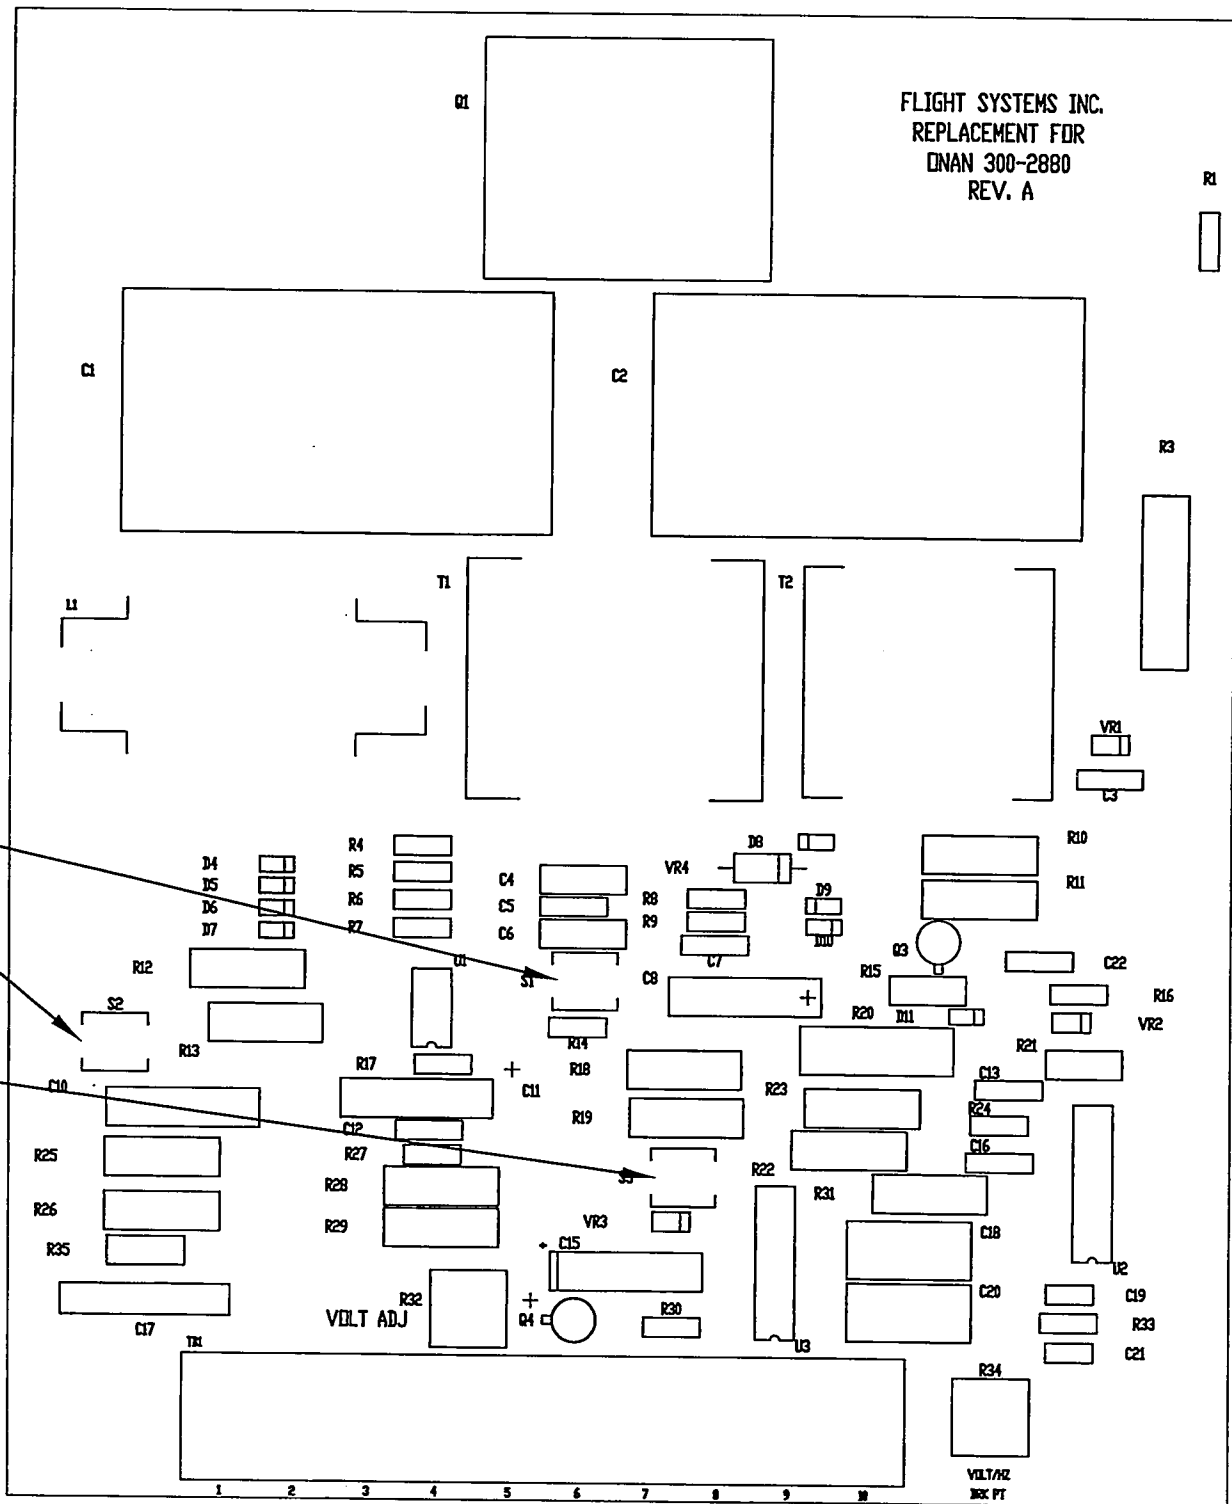

FIGURE 1: SWITCH LOCATIONS
Locate switch S1 on the voltage regulator board (Figure 1). Set the two parts of switch S1 as listed in the above table. For example, if the generator set is rated at 75 kilowatts, set switch S1 (1) to ON and S1 (2) to OFF.